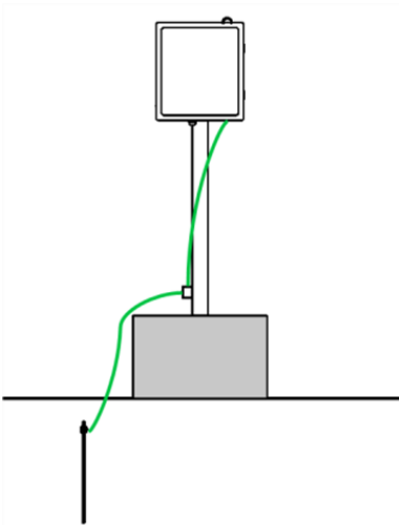

Figure 8. Ground Cable Connection to Ground Rod
7. Route the ground cable to the ground lug at the bottom of the mast and then to the ground rod as shown in Figure 8.